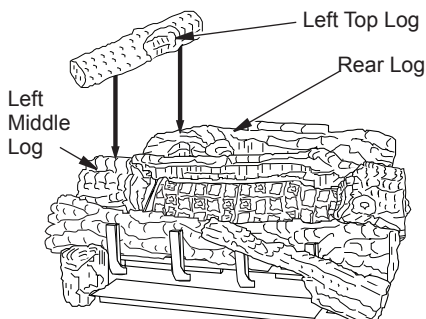

Figure 42 - Installing Left Top Log
9. Place the left top log onto the rear log and the left middle log. Make sure to place the projection on the bottom of the left top log into the recessed areas on the rear and left middle logs (see Figure 42).